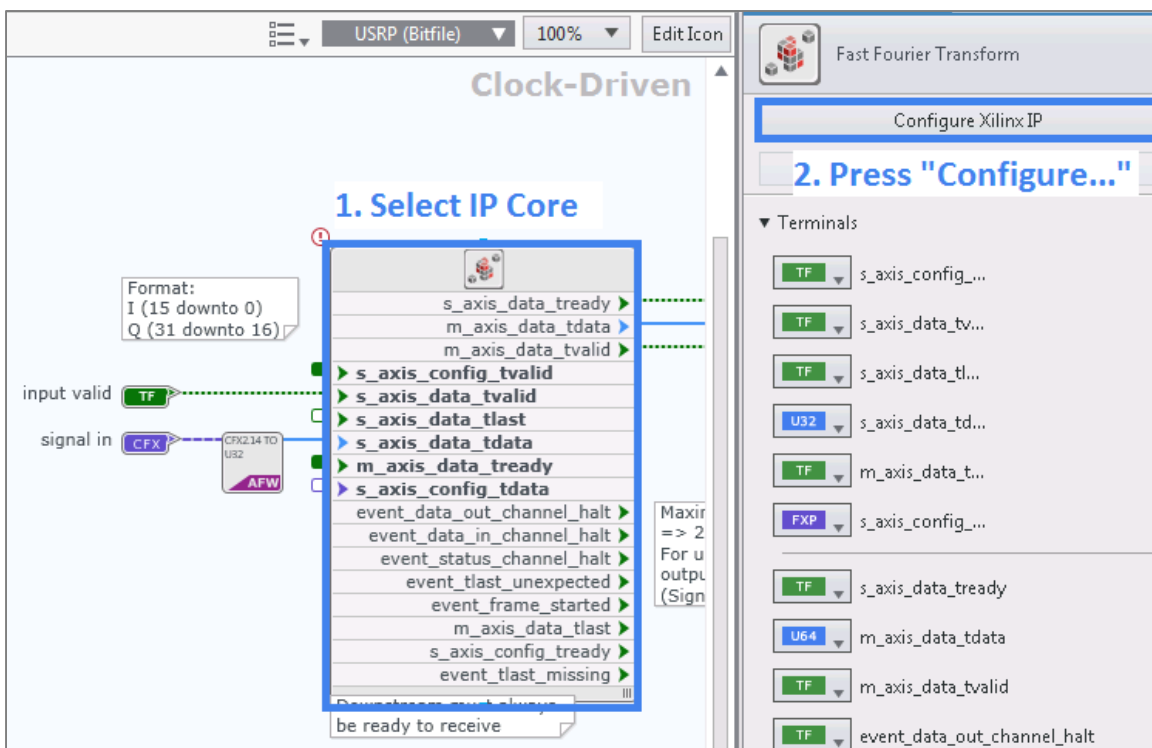

Figure 108 - How to reconfigure a Xilinx IP Core (1)
- Select the affected Xilinx IP block, and click **Configure Xilinx IP Core** in the right-hand rail as shown in Figure 108.